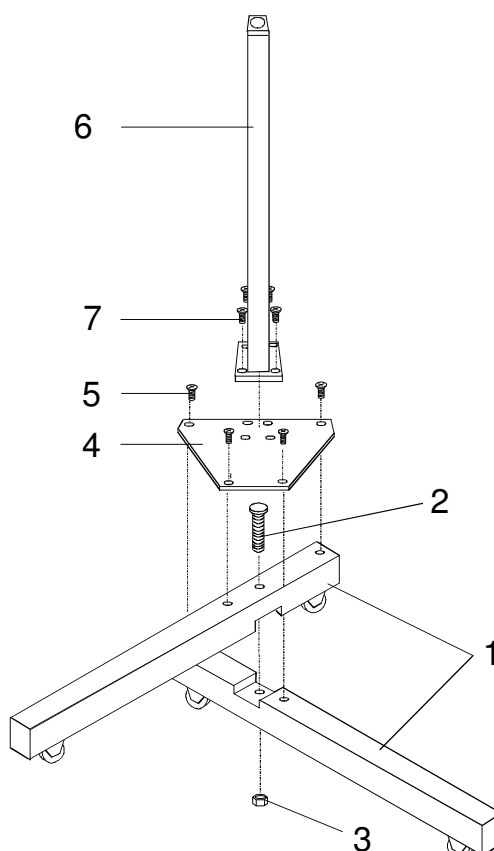

Figure 6-2
1. Cross the two base tubes (**1** - Figure 6-2) into the provided cut, fixing them together with the screw (**2** - Figure 6-2) and relevant nut (**3** - Figure 6-2). Do not tighten the screw completely.
2. Position the base plate (**4** - Figure 6-2) and fix it with the four screws (**5** - Figure 6-2). If necessary, reposition the two base tubes (**1** - Figure 6-2) slightly in order to align the relevant holes on the plate.
3. Lock the nut (**3** - Figure 6-2) in order to block the base tubes (**1** - Figure 6-2) permanently.
4. Assemble the stand column (**6** - Figure 6-2) on the base plate (**4** - Figure 6-2) with the four screws (**7** - Figure 6-2).